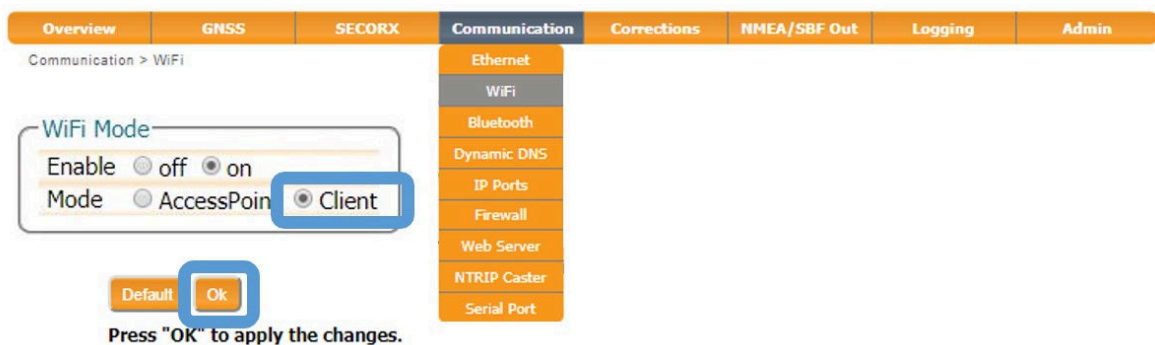

Figure D-1: WiFi client mode of the Web Interface
3. On the **Communications/WiFi** window, enable the Client WiFi mode and click on **OK** as shown in Figure D-1